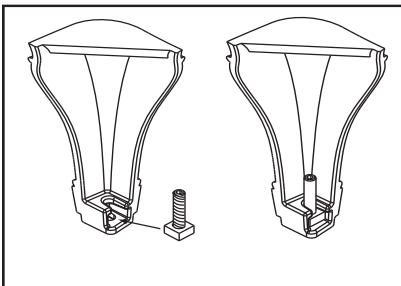
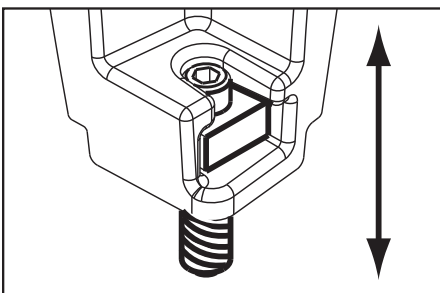

Figure 17.2
Figure 17.3 - Bolt fully extended
2. Slide assembled nuts and bolts into slots on legs with the nuts on the bottom. **Figure 17.2.** Use a 5/32 in. (3.96mm) Allen wrench to adjust legs up and down to desired level. **Figure 17.3.**